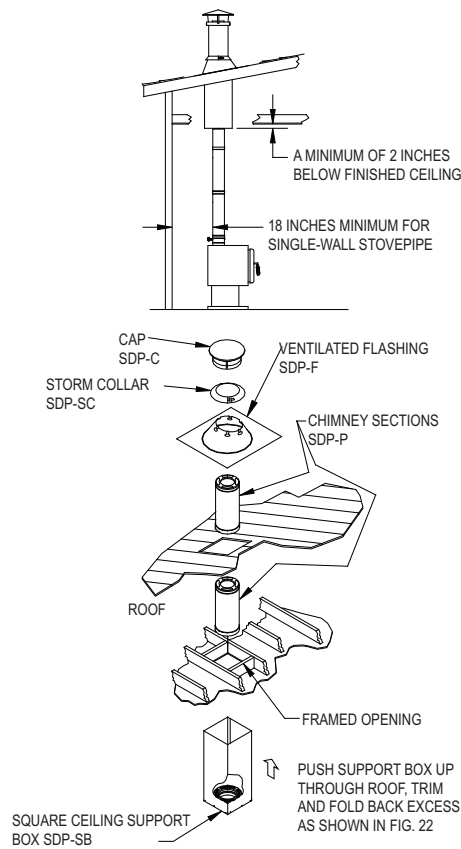
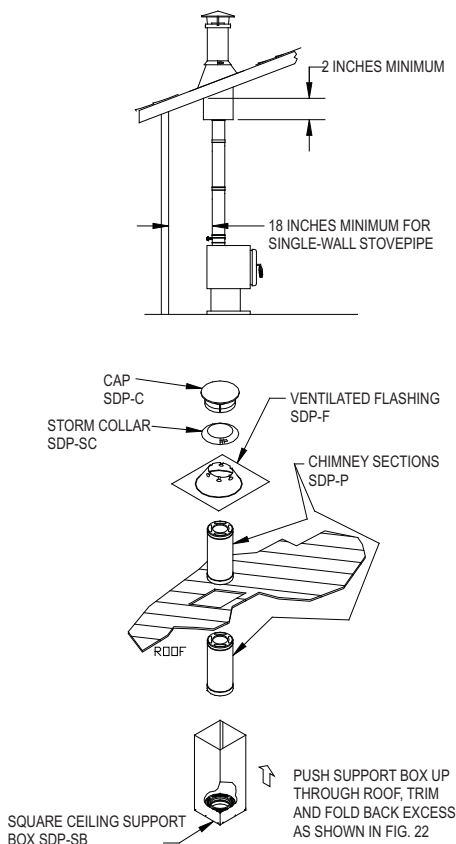

Figure 20
Figure 21
2. Cut Openings: Cut a roof opening directly above the appliances' flue outlet collar, just as in a Ceiling-Supported Installation (Steps 1 thru 5). If a separate ceiling and roof exists, as shown in **Figure 20**, (Low Attic), first cut and frame a ceiling opening as described in Ceiling-Supported Installations (Step 2). Refer to Table 2 for clearance and framing specifications. If it is desired to install through a cathedral ceiling (**Figure 21**), then the hole is cut in the roof.